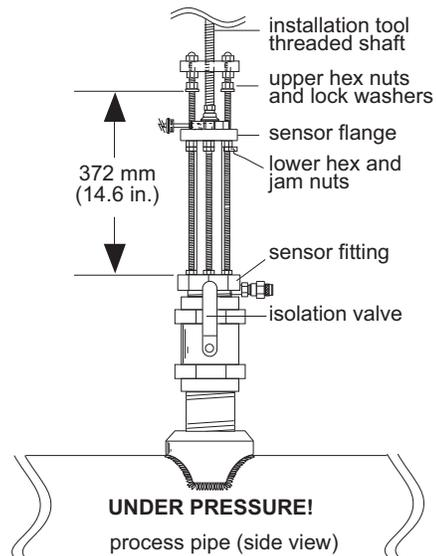

Fig. 14
- B. Thread installation tool in place and secure bearing plate in place of sensor protector plate. (Fig. 14)